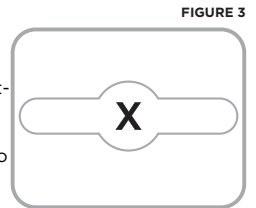

FIGURE 3
1. The LED light fixture comes with an in-line power adapter/LED driver. To mount power adapter, place adapter in desired location and mark in the round portion of the mounting tabs, as shown in **Figure 3**.